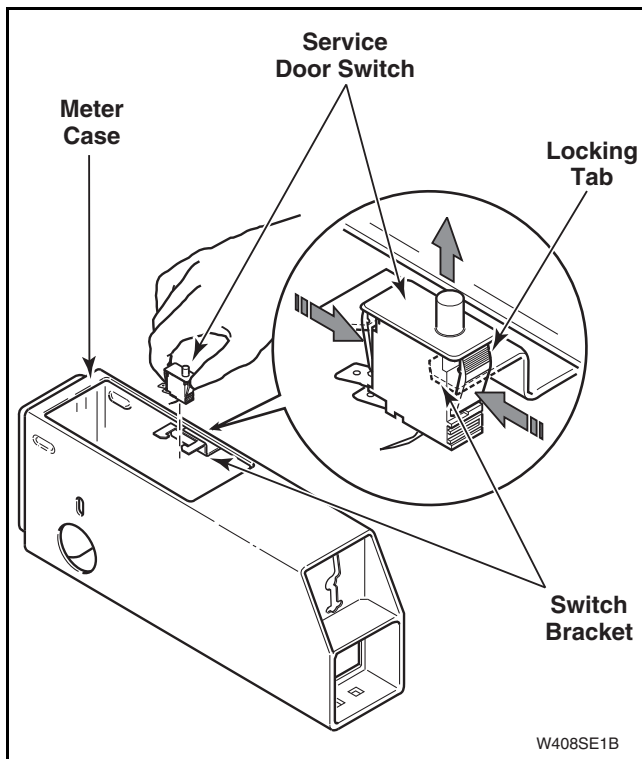

Figure 33
- (2) Disconnect wire harness from coin drawer switch and disconnect coin drop at disconnect plugs.
- (3) Press in on locking tabs of service door switch and remove switch from bracket on meter case, as shown in *Figure 33*.